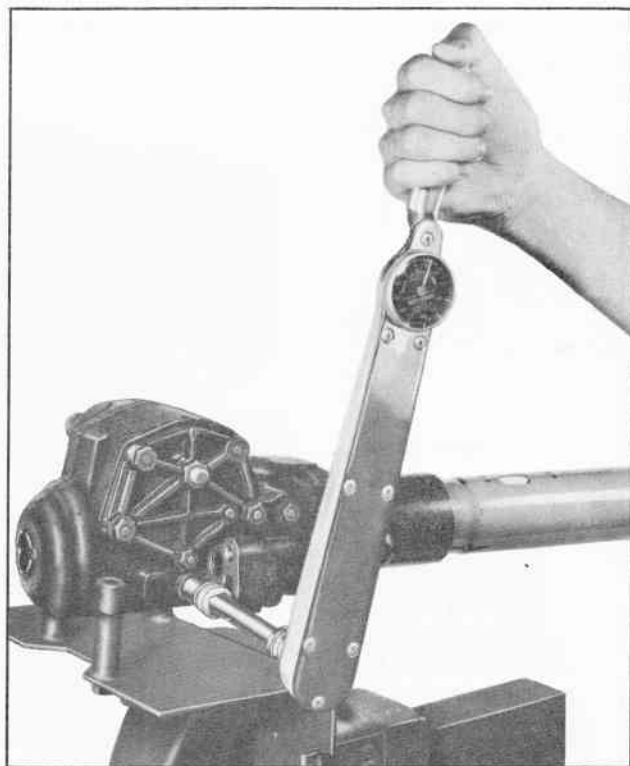

Fig. 86 Tightening Control Valve Retaining Screws
4. Install control valve retaining screws starting with screw on lower end of control valve, tighten to 15 to 20 lb. ft. torque (Fig. 86). **NOTE:** Be sure not to force valve in either direction while tightening retaining screws as this will cause malfunctioning of the valve.